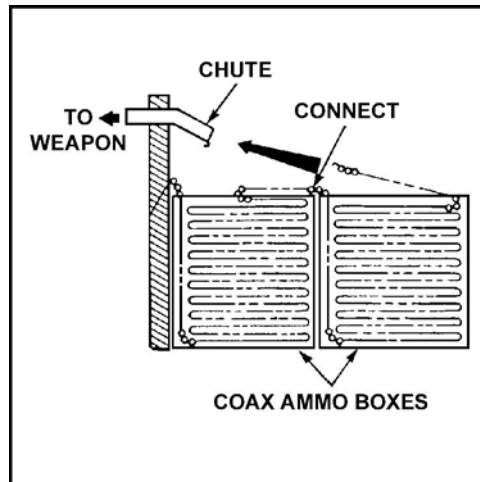

Figure 4. Load second and third sections.
- c. Continue loading 100-round belts into the ammunition box by linking new belts to the loaded belt, snapping the single link to the last cartridge of the new belt. As other ammunition boxes are opened and 100-round belts are taken out, inspect rounds and links for misalignment or damage. Again, realign if necessary, and **DO NOT** load unserviceable ammunition. Continue to load until the first section of the ammunition box is full, then the second section (Figure 4).
- a. Feed the ammunition belt into the chute from the ammunition box, with the cartridges pointing away from the loader and the single link leading (Figure 4).